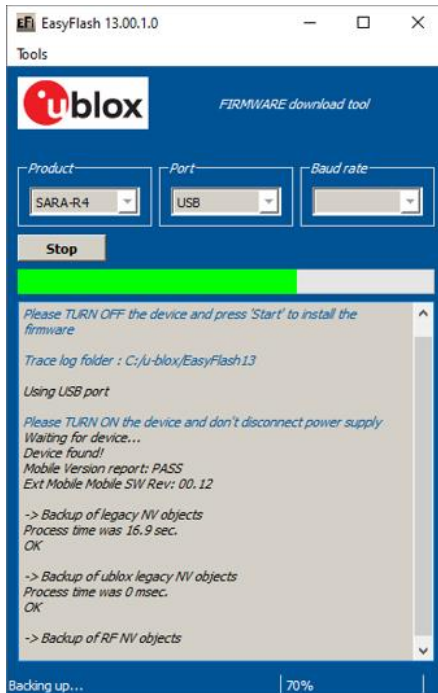
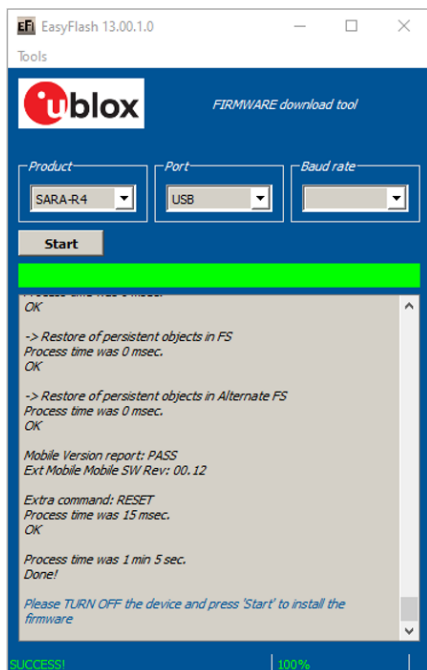

Figure 8: Flash process in progress
Figure 9: Flash process complete and successful
8. Flash will start, wait for flash to complete (see Figure 8 and Figure 9)